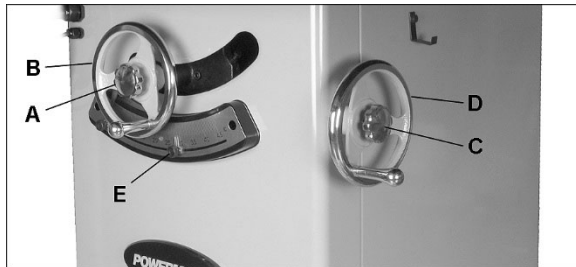

Figure 8-1
See Figure 8-1.
To raise or lower blade, loosen lock knob (A, Figure 8-1) and turn handwheel (B) on front of saw until desired height is reached. Tighten lock knob (A). The blade should be raised about 1/8" above top surface of material being cut.